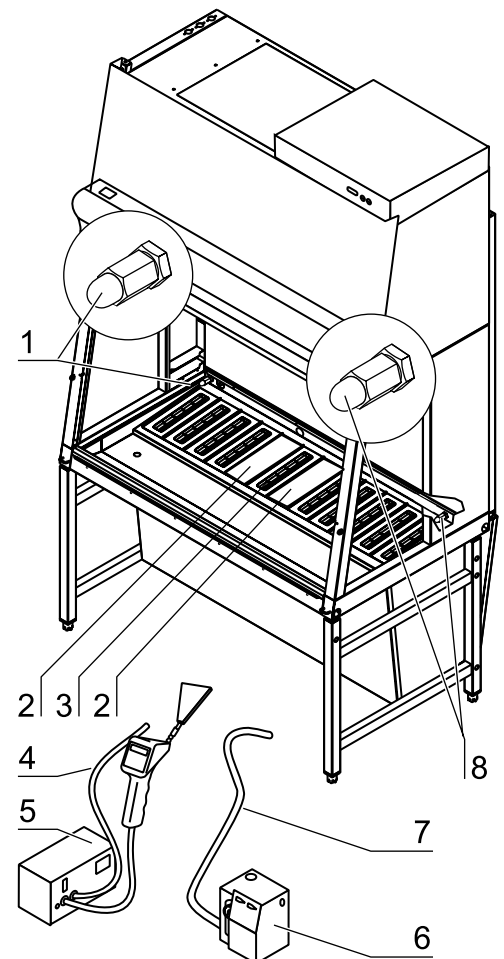

Fig. A3
10. **Fig. A3:** Connect the connecting hose [4] of the testing equipment / particle monitor [5] without dilution range to the connection [1] or [8].